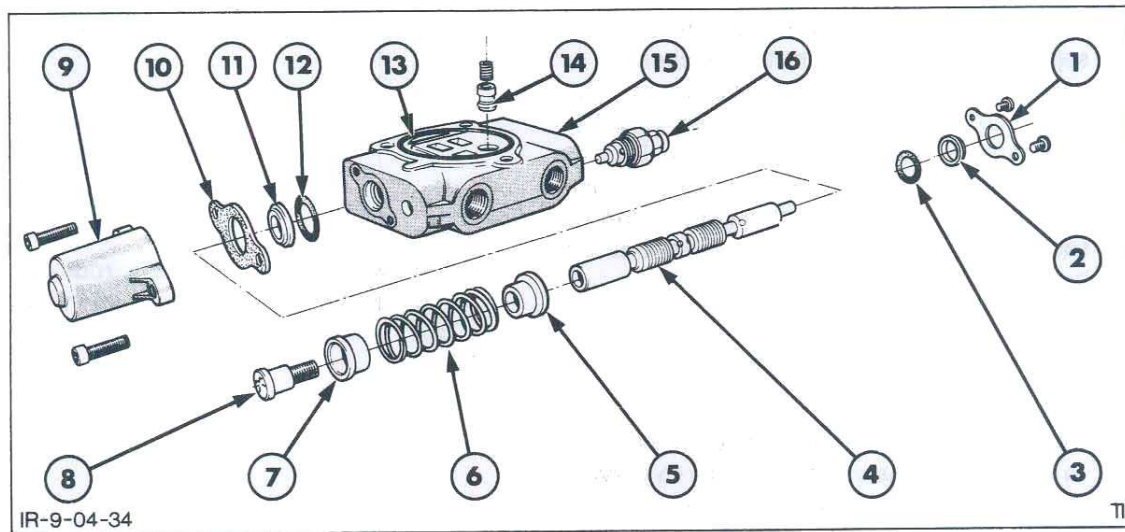

Figure 28
2. Remove the centring spring cap retaining screws and remove the cap, Figure 28.